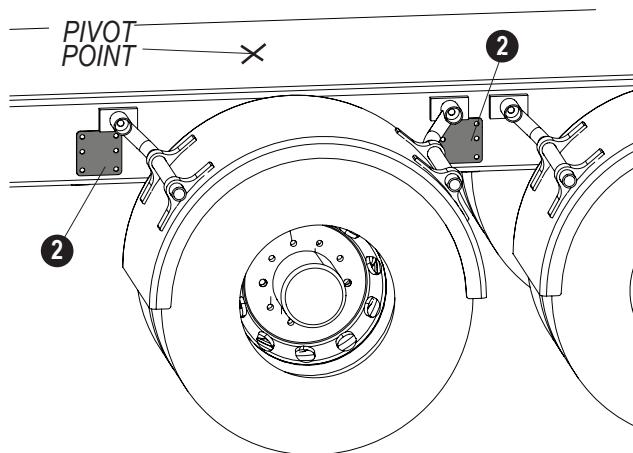

FIG. 170
Position **offset plates (2)** so the marked pivot point is between them. See Figure 170.
- **Offset plates (1)** may be mounted at different heights with **offset tubes (4)** modifications, provided that the **bridge mount tubes (1)** on both sides remain parallel, level, and at the same height.
- Align **adapter plate (5)** so spring assemblies will align with pivot point location, as noted in Step 3, Figure 170.
- Use the **adapter plate (5)** as a guide to drill 1/2-inch holes through the **bridge mount tube (1)**.
- Secure each **plate (5)** to a **bridge mount tube (1)** with two **bolts (C)**, **washers (J)** and **lock nuts (P)**.